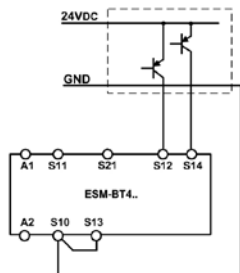

Fig. 9: Dual-channel emergency stop circuit with pnp semiconductor outputs/OSSD outputs with short circuit detection (category 4, up to PL e).
- For applications as per Fig. 9, it is to be ensured that the reference potential of the signaling device and the ESM-BT4... is the same